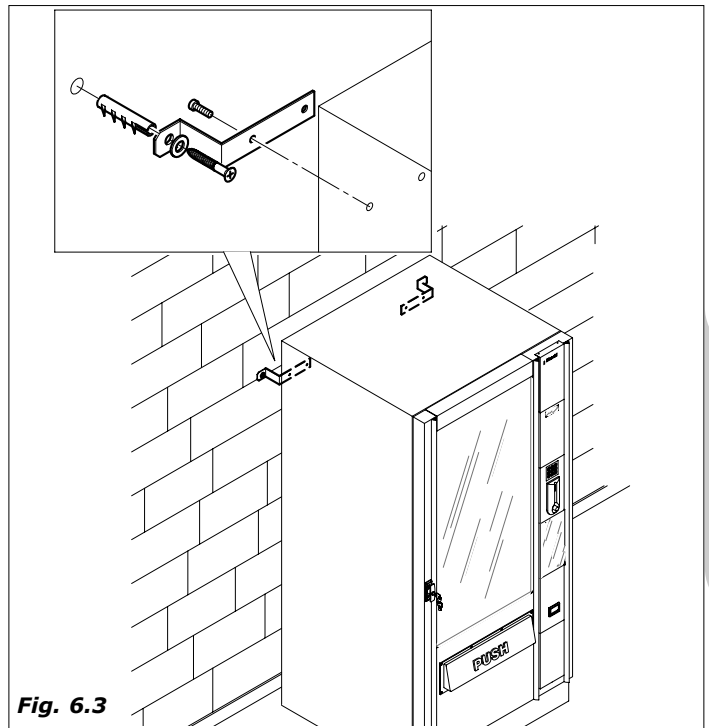

Fig. 6.3
- It is recommended that the distributor be fixed to the wall using the two brackets provided. Fix them first to the distributor (fig.6.3) and then to the wall.